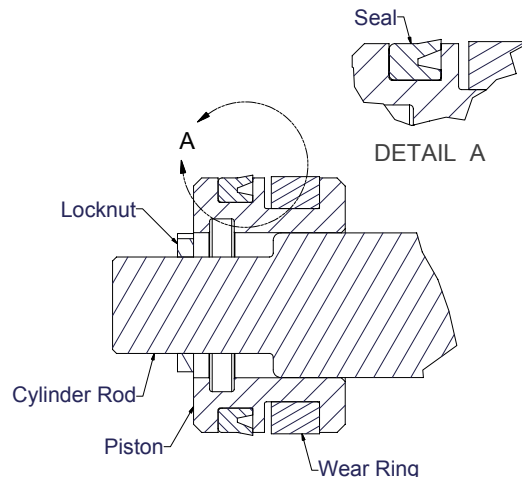

Figure 4-11, Piston Seal
2. Note the direction of the seal on the piston. Improper installation will result in poor performance. The cupped side or O-Ring side of the seal should be facing the gland cap. (Figure 4-11)